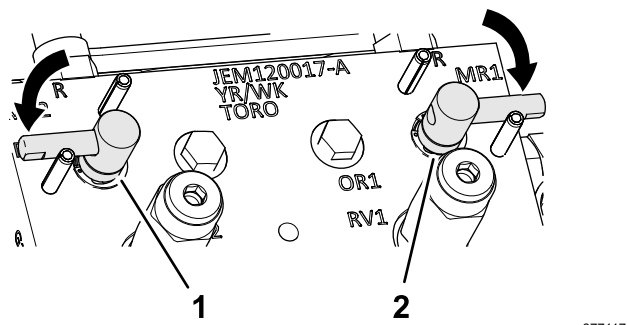

Figure 106
3. Move the backlap levers to the F (mow) position (Figure 106).